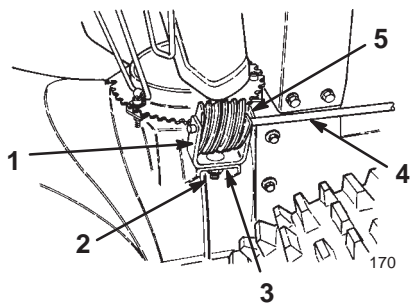

Figure 8
1. Insert the 1-inch (2.5 centimeter) carriage bolt into the mounting hole of the gear bracket (Fig. 8).
2. Position the worm gear into the bracket, align the holes, and insert the chute gear rod through the bracket and the gear (Fig. 8).
3. Loosely mount the worm gear and the bracket to the mounting flange with a carriage bolt, a flat washer, and a locknut (Fig. 8).